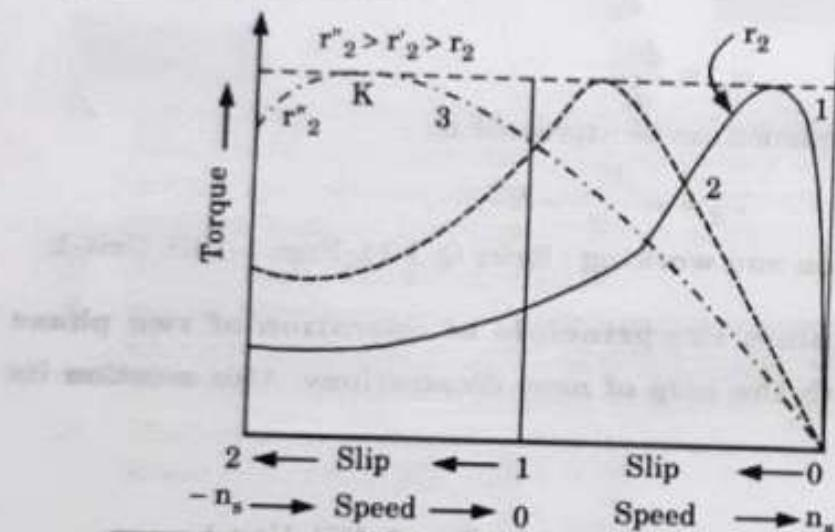

Fig. 1.17.1. Torque-slip curve of a balanced 2 phase motor with different rotor circuit resistances.
3. Since the torque-speed slope is negative around zero speed, the motor operating to the right of maximum torque point (Point K in Fig. 1.17.1) is in the stable region.